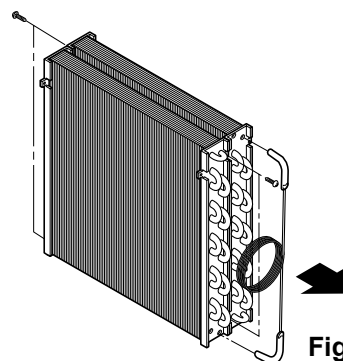

Figure 20
7. Unbrazed the capillary tube at the connections of the condenser and evaporator. (See Figure 20)
8. Remove 4 screws between the condenser and evaporator. (See Figure 20)